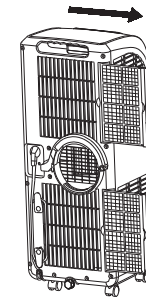

Figure 13
- 1). Grip the gripping position of the evaporator filter frame and the condenser filter frame and take out the filter frame gently in the direction shown by the arrow (as shown in Figure 13).